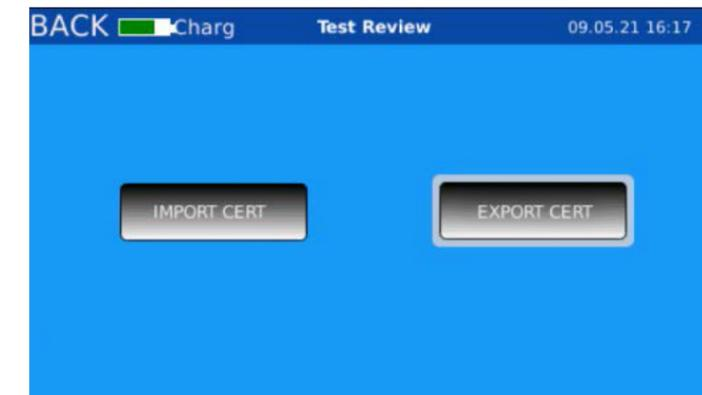

Figure 62. Select "Export Cert" button
5. Select the **Export Cert button** to export the shaker's default calibration certificate template files, **seismic_cert.html** and **logo.png**, to the USB memory drive (Figure 62).